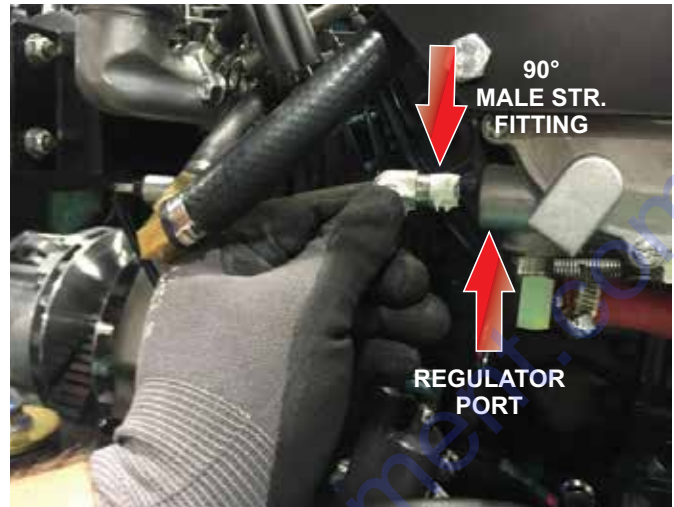

Figure 28. 90° Fitting Installation
28. Apply Loctite® 567™ to the male threads (Figure 28) on the 90° male fitting (P/N 32833).